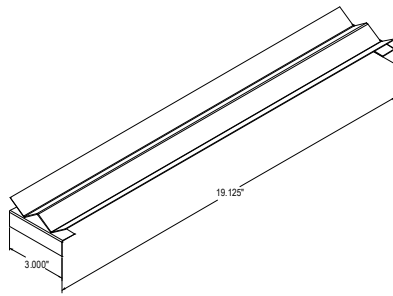

Fig. 2: Filter rack and dimensions for the OD6 furnace
The OD6 comes with (2) two 19" x 13" reusable filters. A "W" style filter rack is shipped with the furnace for placement of the filters inside the return air plenum on counterflow installations. Access to the filters is through the removable blower door. For horizontal installations, it is recommended that return air grill filters be installed for homeowner access. See Fig. 2.